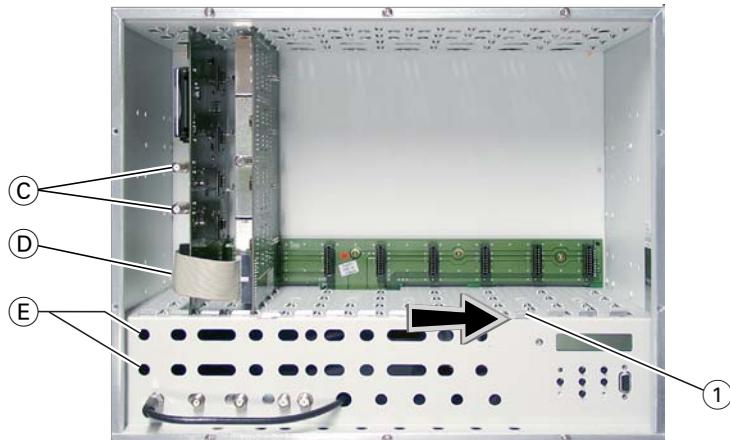

Fig. 5
- Install the appropriate modulator module (fig. 5).
—> Figure 5 shows the slots 1 (digital module) and 2 (modulator module). The slot between them (without a contact strip on the board at the rear wall of the housing) is for an add-on module only.
- After installing the modules close the locking device ① in direction of the arrow (fig. 5).
- Connect SAT-IF inputs ② of the digital module (fig. 5) to the preinstalled F terminals in the rear wall of the head-end station via the cable inlets ③ using HF cables made on-site (length approx. 80 cm) or if applicable to one of the outputs of a retrofitted SAT-IF input distributor.
- Using the ribbon cable ④ to connect the AV output of the digital module to the AV input of the modulator module.